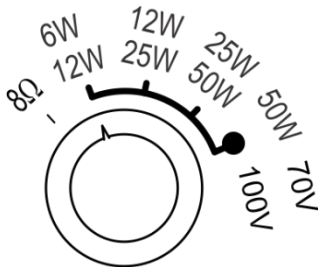

Figure 4: Adjust Tap Selector
2. Adjust each speaker to the appropriate tap setting (see Figure 4).